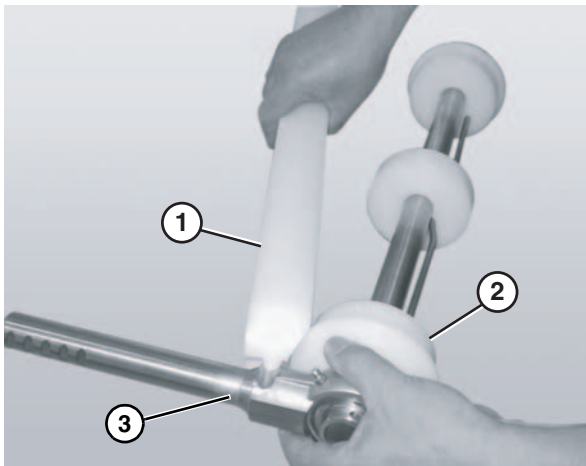

Figure 81
5. Slide the bearing shaft assembly (**Figure 81, item 3**) off the idler shaft.
6. Remove the guard bar (**Figure 81, item 1**).
7. Slide the pucks (**Figure 81, item 2**) off the idler shaft.